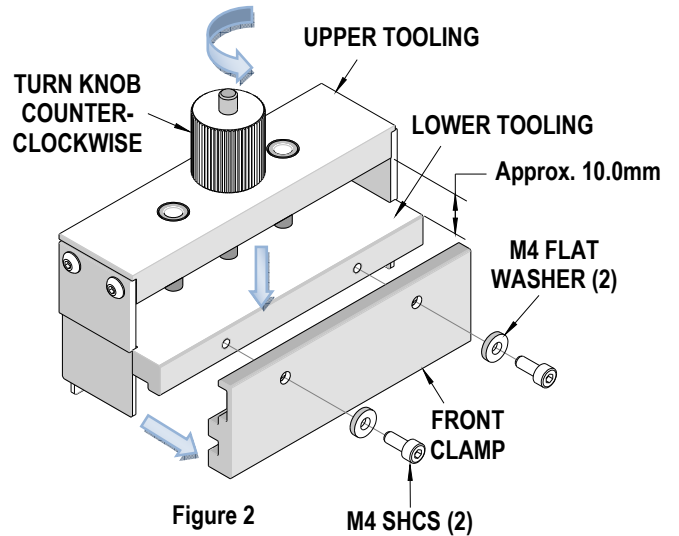

Figure 2
1. Loosen the upper and lower halves of the tool by turning the knob counterclockwise (CCW) until there is about 10.0mm between the lower half and upper half of the tooling. See Figure 2.
2. Remove the front clamp from the lower tooling by removing the (2) M4 SHCS and washers. See Figure 2.